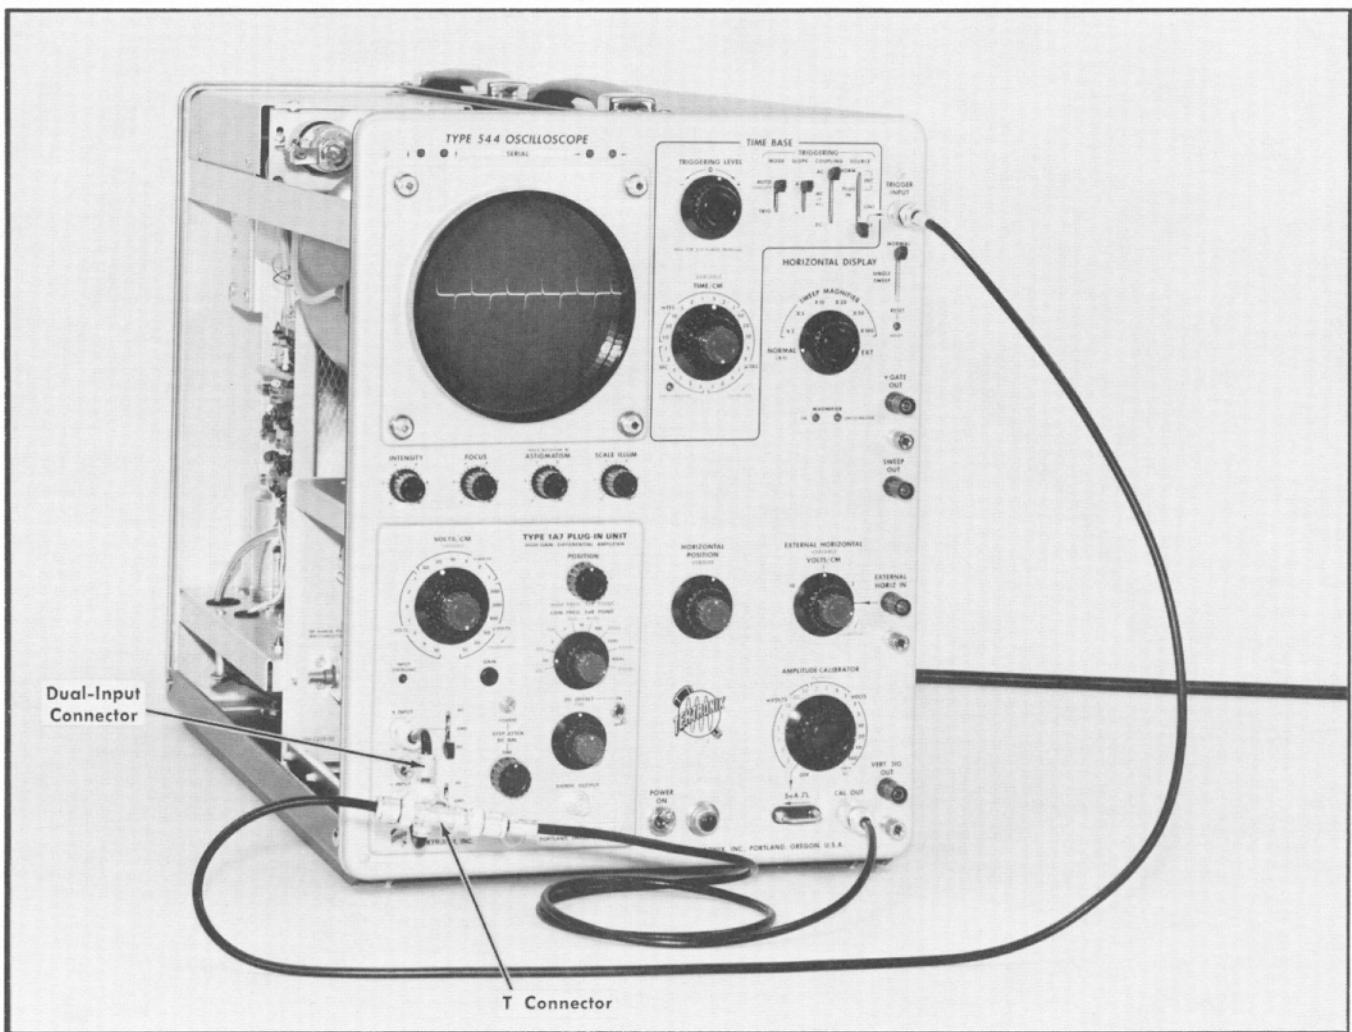

Fig. 6-32. Setup at completion of step 21d.
- d. Connect a coaxial cable from the T connector to the oscilloscope Trigger Input connector. Fig. 6-32 shows the setup.
d. Connect a coaxial cable from the T connector to the oscilloscope Trigger Input connector. (The connections are the same as those shown in Fig. 6-32.)